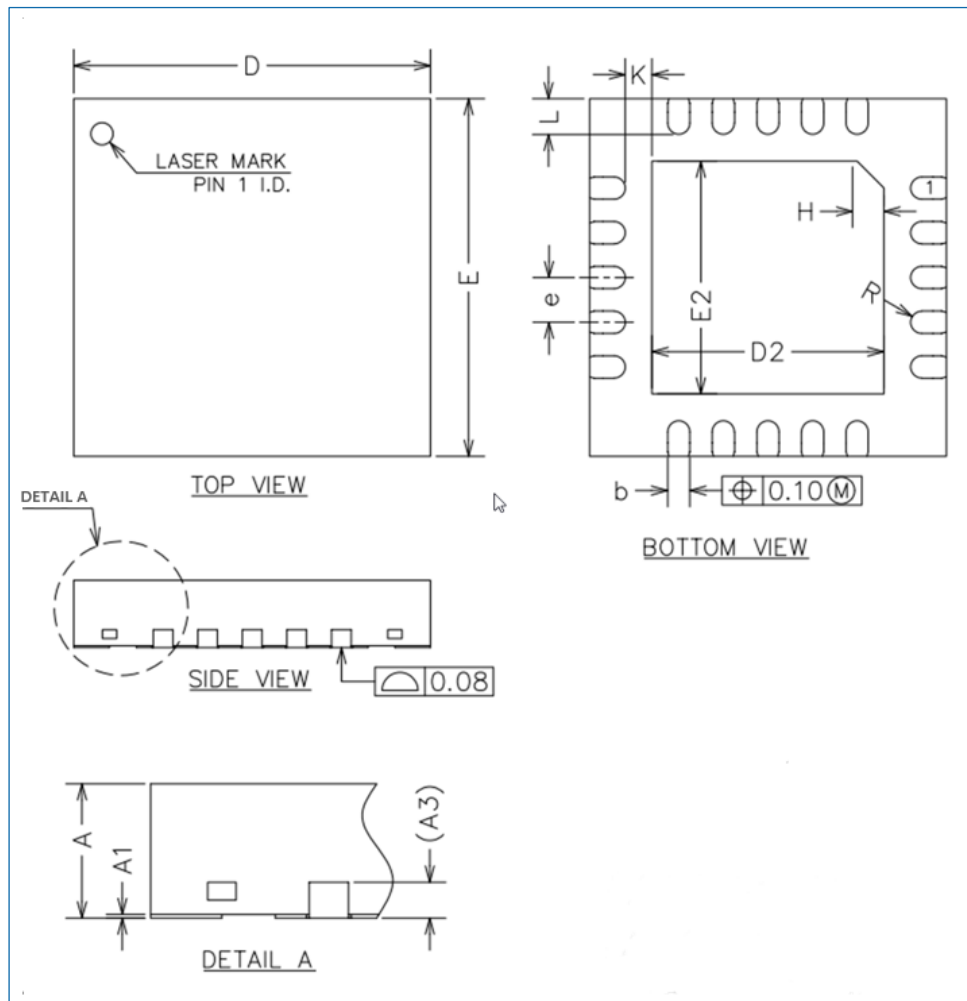

Figure 7-2 QFN20 package 2 outline
- 4 mm × 4 mm, 0.5 mm pitch package (as shown in Figure 7-2): HK32F0301MF4U6